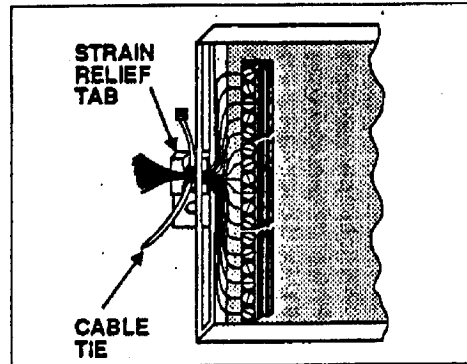

Figure 7: Insert the Cable Tie
2. Bunch the wires attached to the 911A together (see Figure 7). Make sure none of them become disconnected.